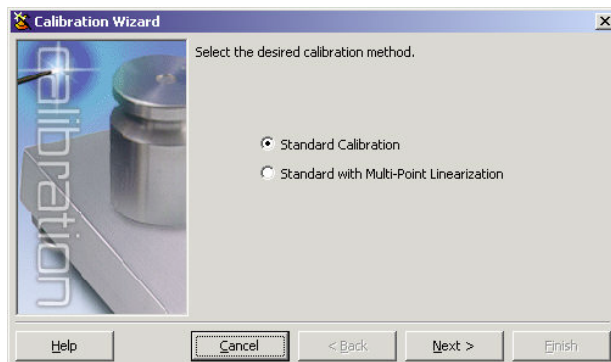

Figure 4-3. *iRev 4* Calibration Wizard
1. On the first Calibration Wizard display (see Figure 4-3), select whether you are performing a standard (zero and span)